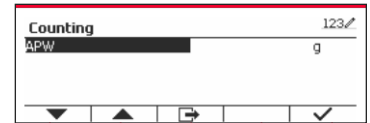

Figure 43
1. Alternatively, first press the softkey corresponding to the  icon to enter the submenu for setting the APW. (See Figure 43)